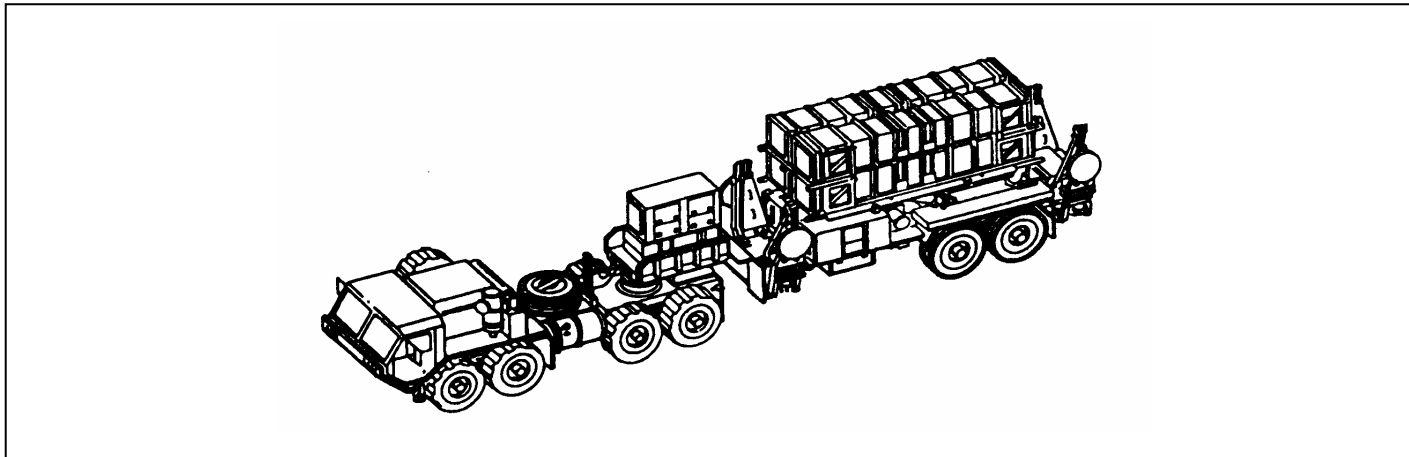

Figure 2-2. LS in March Order Configuration.
ILLUSTRATIONS: Figure 2-2.
(1) Using a diagram, Figure 2-2, a sand table, or a simple sketch in the dirt, show the crew members how the LS should be march ordered.
(2) Tell the crew members what their duties are in the drill.
(3) Read the performance measures of the drill to the crew members.
(4) Have crew members explain their performance measures to ensure that they understand them.